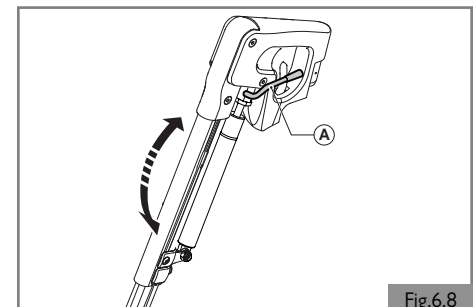

Fig.6.8
**6.5 Manually elevating leg rests knee angle (Fig. 6.8)**